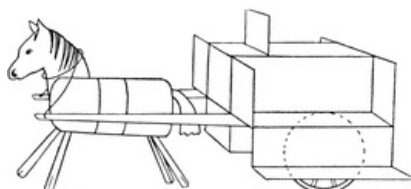

FIG. 136
**An Irish Jaunting-car** (Fig. 136). This toy is made from one match-box. First two cardboard